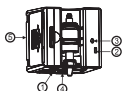

FIGURE 2
- If more soap/sanitizer is required, open cover and adjust toggle switch to desired setting (see Figure 2):
- Wipe sensor parts clean (see Figure 2)